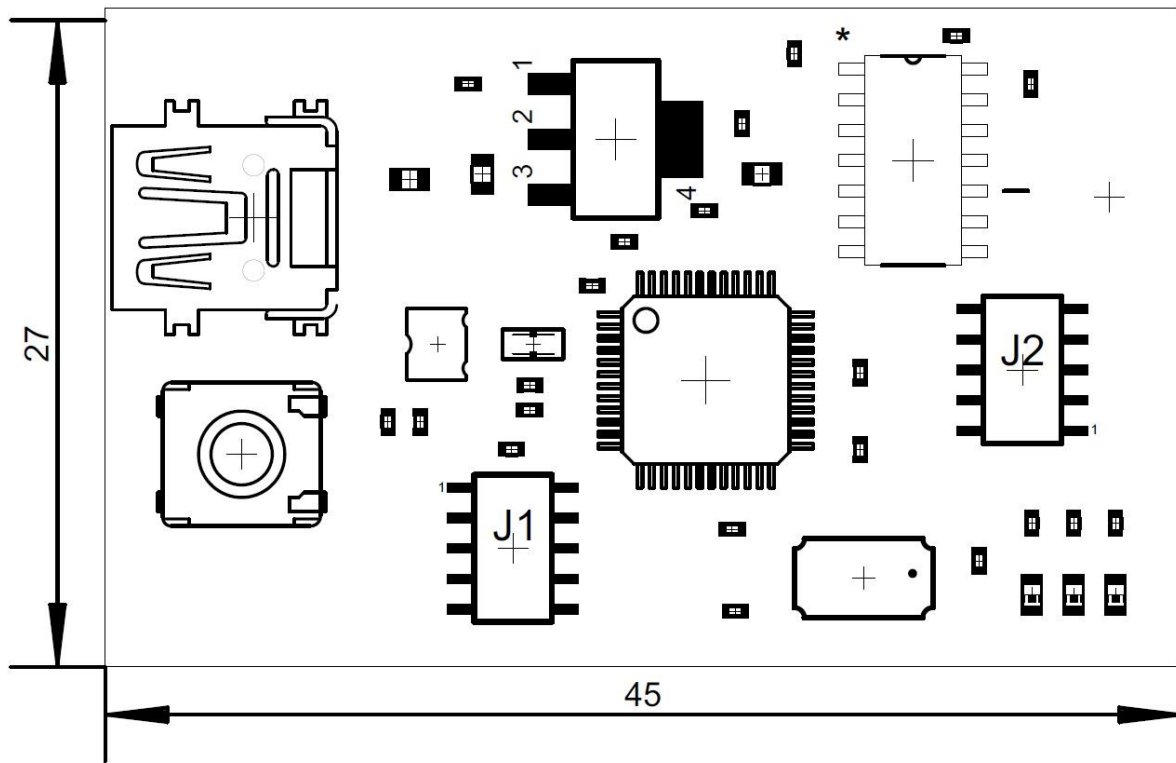

Figure 1: mechanical dimension
- Figure 1: mechanical dimension 3